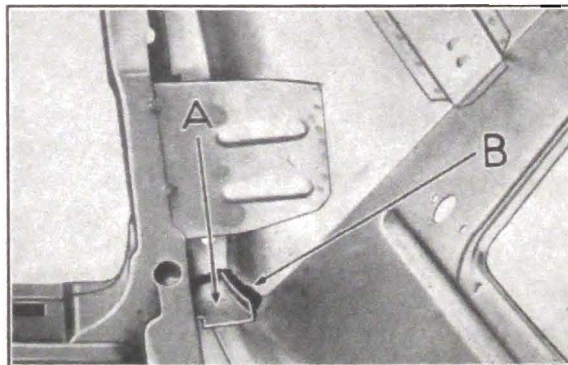

Fig. 1-131. Method of dust sealing at lower end of front body pillar and floor.
- shown in Fig. 1-131. After turning back the